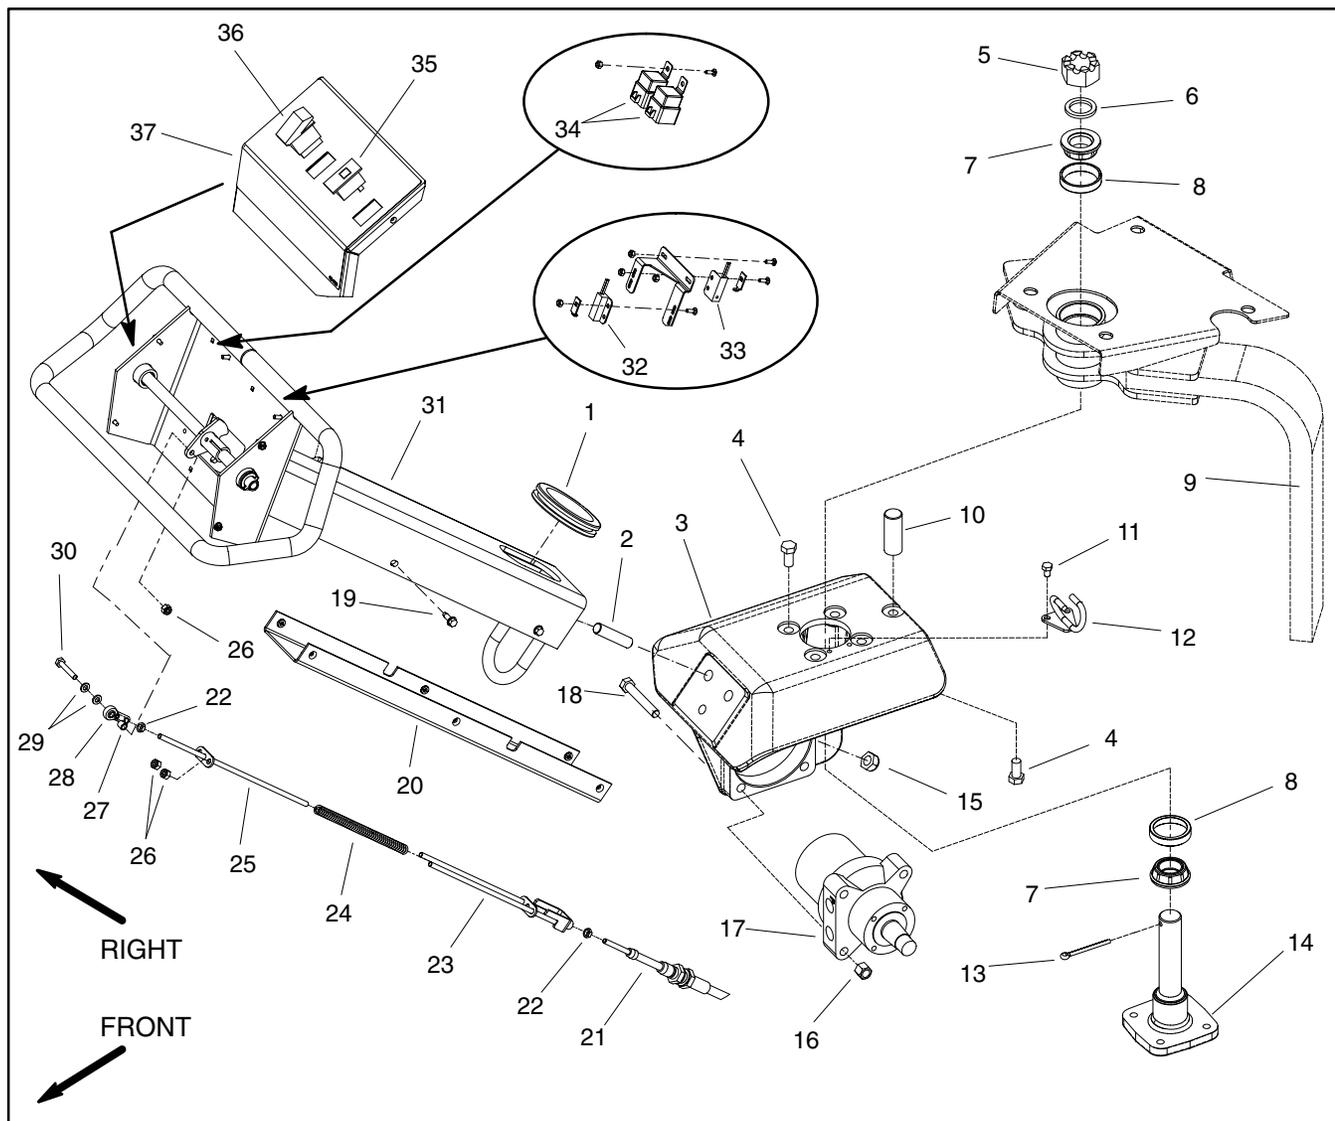

Figure 7
Disassembly (Fig. 7)
Assembly (Fig. 7)
1. If removed, secure steering spindle to steering arm with four (4) cap screws.
4. Assemble steering components in the reverse order of disassembly using Figure 7 as a guide.